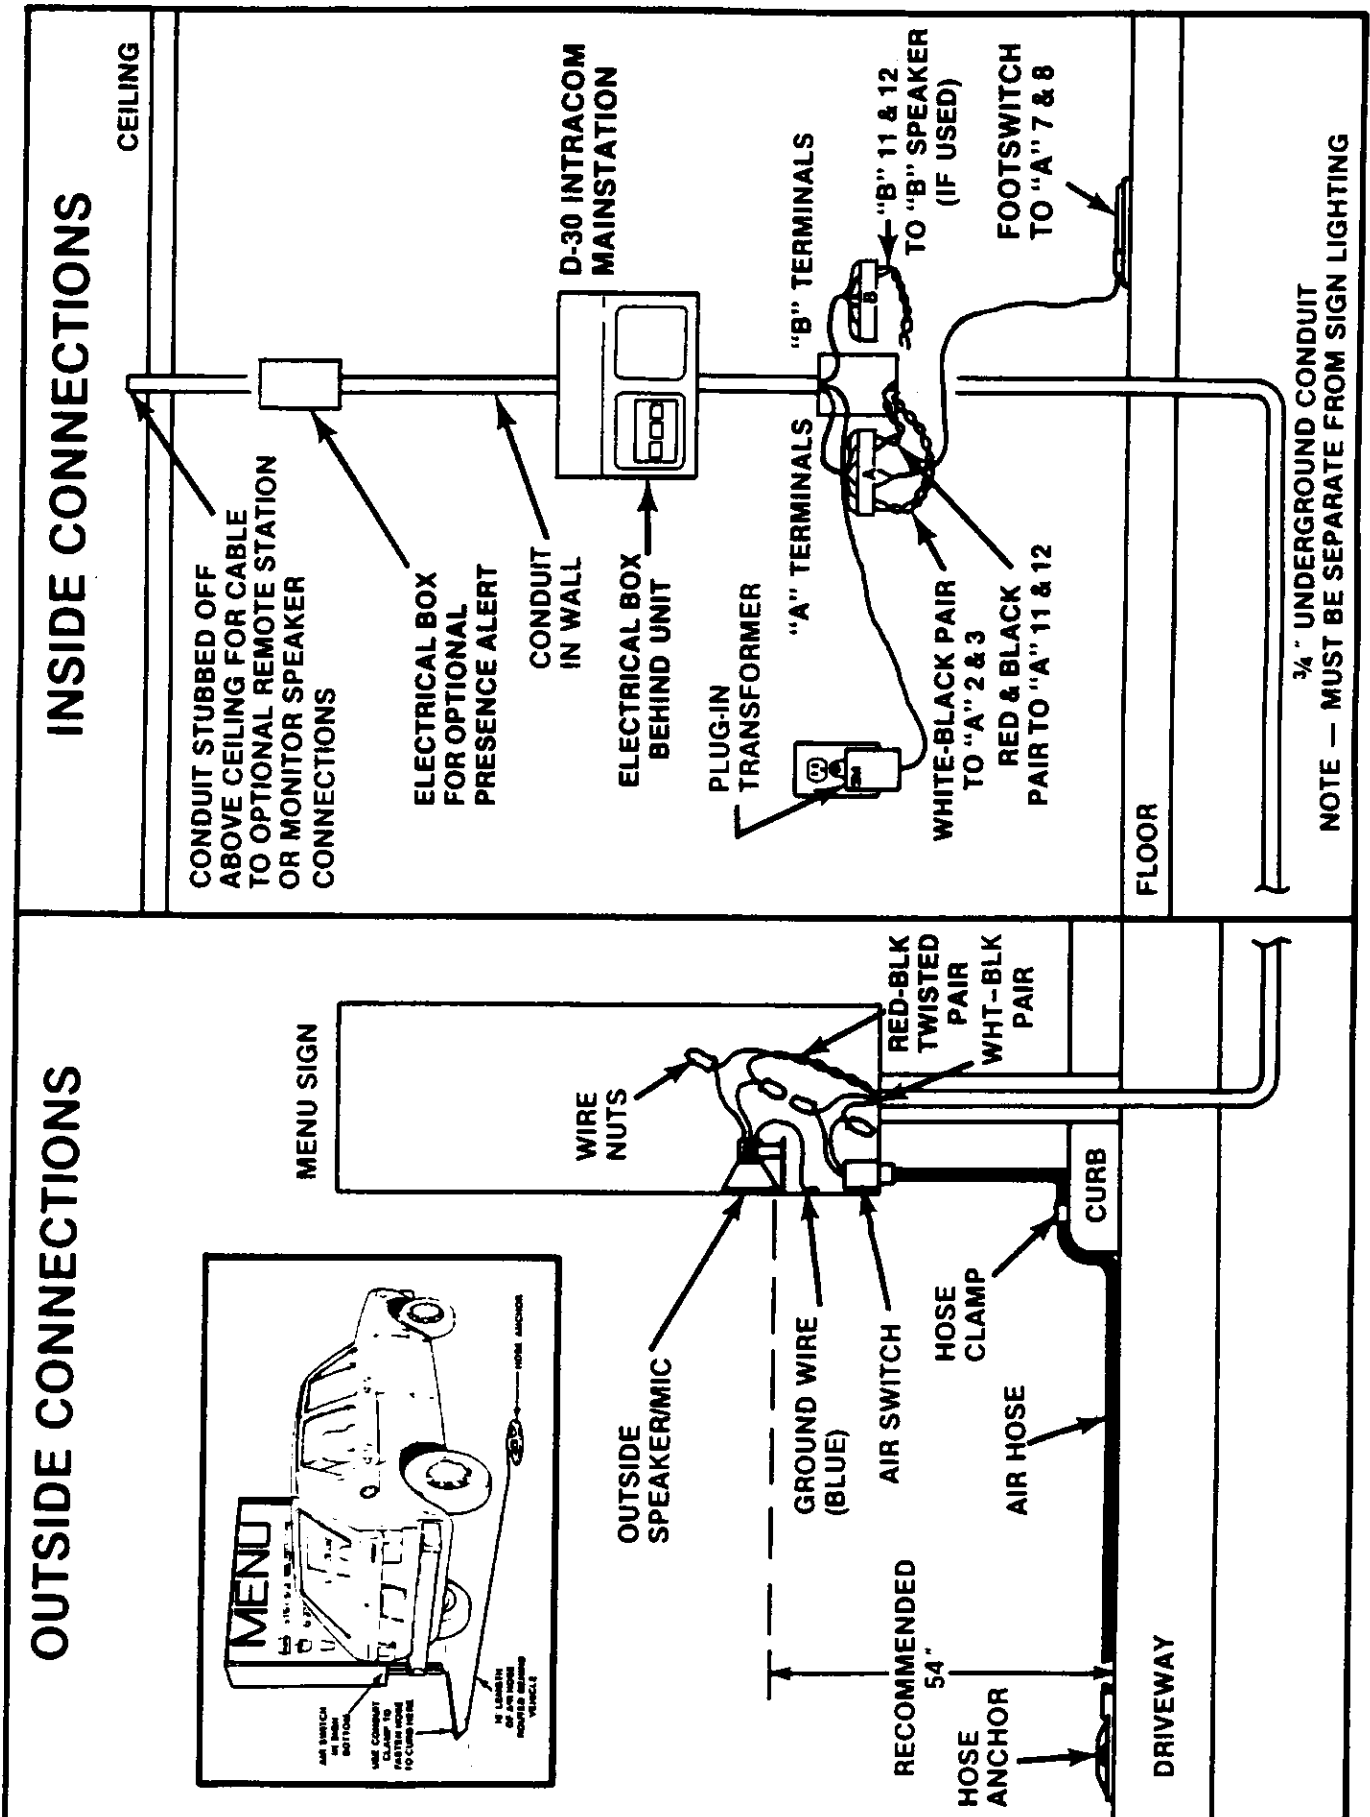

Figure 5. Typical D-30/Air Hose Mounting and Conduit System
- c. **Air Switch** - Connect the white speaker/detection cable wire coming from the air switch to Main "A" terminal 2 and the black wire to terminal 3 as shown in figures 5 and 8 - 11.